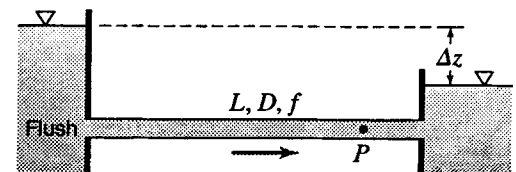

Figure P8.60
- 8.60 A 12-in-diameter pipe ($f = 0.028$) 450 ft long runs from one reservoir to another, both ends of the pipe being under water (Fig. P8.60). The intake is square-edged. The difference between the water surface levels of the two reservoirs is 150 ft. Find (a) the flow rate, and (b) the pressure in the pipe at a point 320 ft from the intake, where the elevation is 135 ft lower than the surface of the water in the upper reservoir.